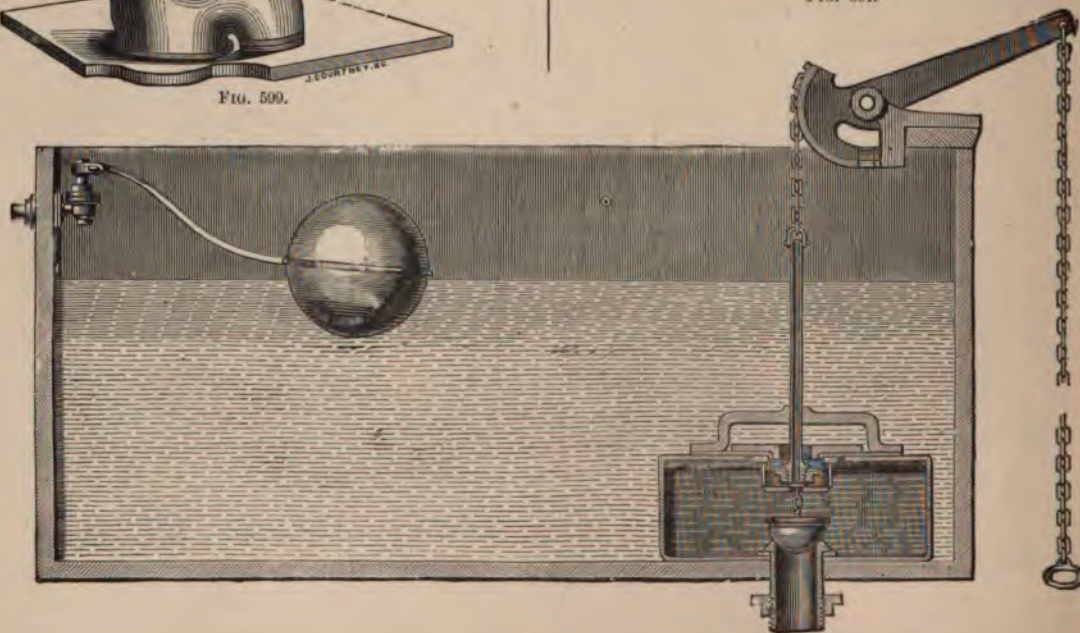

FIG. 600.
J. Stone & Co's. water waste preventing service box. This is a very effective, cheap and useful service box, with valve and air-pipe together with union and flynut complete. They have been largely used by the Surrey side of the river plumbers. Fig. 600 is the valve and box complete, with cam, ball, lever and chain. This waste preventer is a very strong make. I need scarcely say that by pulling up the rod or air-pipe (to which the chain is attached) that it first closes the inlet valve, and by continuing the pull it next opens the half-round valve (which is of rubber), and allows only the contents of the box to flush the closet. To repair this, unscrew the guide on top, take out the diaphragm and valve, and re-rubber same.